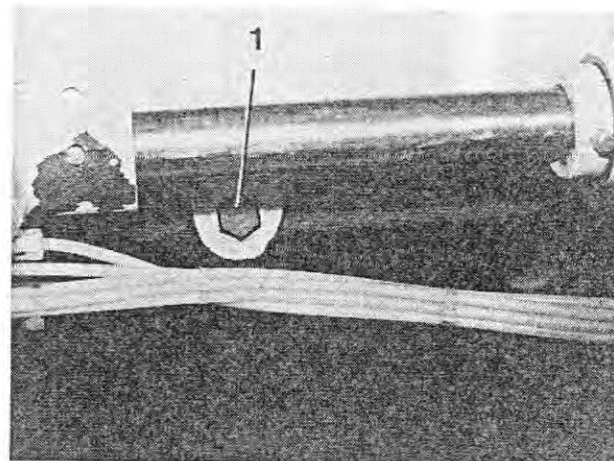

Fig. 74
1. Unscrew the oil draining plug (Figure 74/1) and drain the oil.
5. Unscrew the oil draining plug (Figure 74/1). Drain the flushing oil and screw the oil draining plug in.